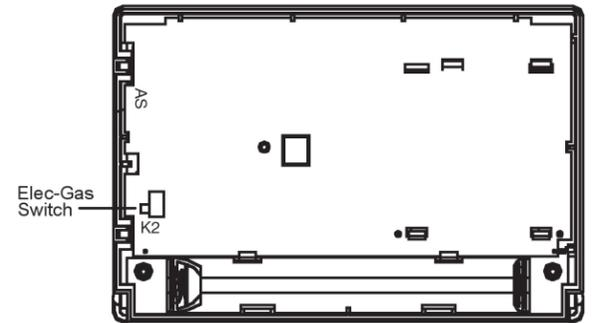

Figure 1. Electric/Gas Switch (Fan Option)
This thermostat is configured from the factory to operate a heat/cool, fossil fuel (gas, oil, etc.), forced air system. It is configured correctly for any system that DOES NOT require the thermostat to energize the fan on a call for heat. If your system is an electric heat or heat pump system that requires the thermostat to turn on the fan on a call for heat, locate the ELEC/GAS switch on the back of the thermostat (see Figure 1) and switch it to the ELEC position. This will allow the thermostat to energize the fan immediately on a call for heat. If you are unsure if the heating/cooling system requires the thermostat to control the fan, contact a qualified heating and air conditioning service person. When the thermostat is configured for heat pump, the thermostat will always power the circulator fan on a call for heat in the Heat mode. The ELEC/GAS switch must be set to match the type of auxiliary heat your system uses for proper operation in the Emergency mode.
5. Fasten base loosely to wall, as shown in Figure 1, using two mounting screws. Place a level against bottom of base, adjust until level, and then tighten screws. (Leveling is for appearance only and will not affect thermostat operation.) If you are using existing mounting holes, or if holes drilled are too large and do not allow you to tighten base snugly, use plastic screw anchors to secure subbase.